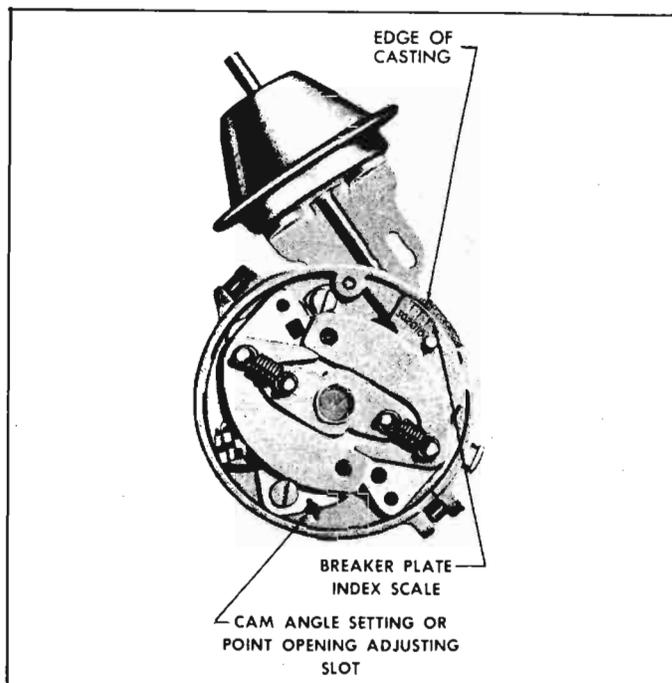

Fig. 8-57—Breaker Plate Positioning
6. Position of breaker plate is determined by the vacuum unit mounting screws. Indexed scale stamped on plate should have 23° mark opposite notch in distributor casting. This setting should be checked when installing new points and adjusted, if necessary. See Figure 8-57.
Refer to Figure 8-57.
4. Position breaker plate with 23° mark in line with scribe mark on housing and tighten vacuum unit hold-down screws (fig. 8-57).
4. Tighten distributor clamp screw snugly and connect the vacuum line, primary wire to coil terminal and install cap. Also install spark plug and high tension wires to cap if removed (fig. 8-57). It is important that the spark plug wires be installed in their proper location in the supports as shown.